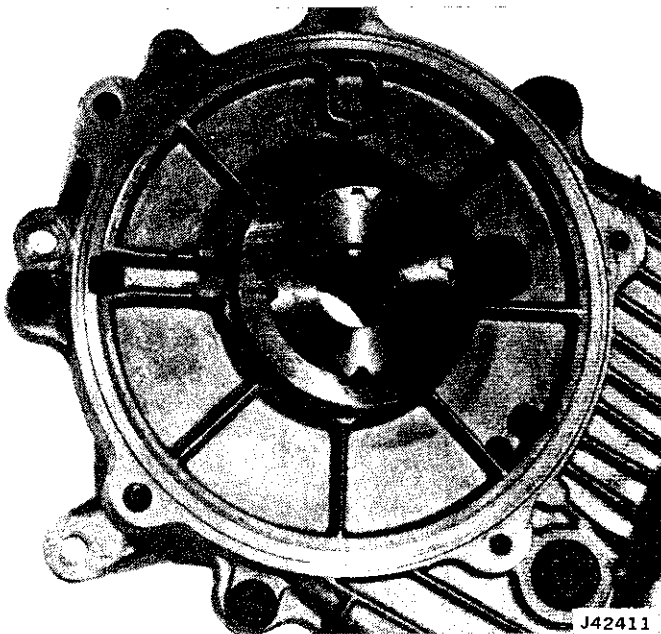

Fig. 2D-61 Drive Hub and Sleeve Installation
(6) Insert rear output shaft in differential.
(7) Move lockup hub rearward in case cover.
(8) Lubricate drive sprocket thrust washer with Quadra-Trac lubricant or equivalent only, and install washer on rear cover (fig. 2D-47).
(9) Align and install rear cover on sprockets. Rotate output shaft to align with lockup hub if necessary. Be sure drive sprocket thrust washer is not displaced during cover installation.
(10) Assemble drive hub, drive sleeve, and drive sleeve snap ring (fig. 2D-61).
(11) If not equipped with reduction unit, install drive sleeve and hub on drive sprocket. Be sure snap ring seats completely.
(12) If equipped with reduction unit, be sure oil baffle is in position, and install pinion cage and snap ring.
(13) Apply 1/16-inch (1.58 mm) thick bead of silicone-type sealer to mating surfaces of transfer case front and rear covers.
(14) Install front output shaft and thrust washer in cover.
(15) Align and install front cover assembly on rear cover assembly.
(16) Install front cover-to-rear cover attaching bolts. Tighten bolts alternately and evenly to 20 foot-pounds (27 N•m) torque.
(17) Rotate drive sleeve to be sure drive sprocket thrust washer was not displaced during assembly. The sleeve must turn freely without binding.
(18) Install power takeoff cover seal ring and cover.
(19) Install speedometer gear on rear output shaft (fig. 2D-48).